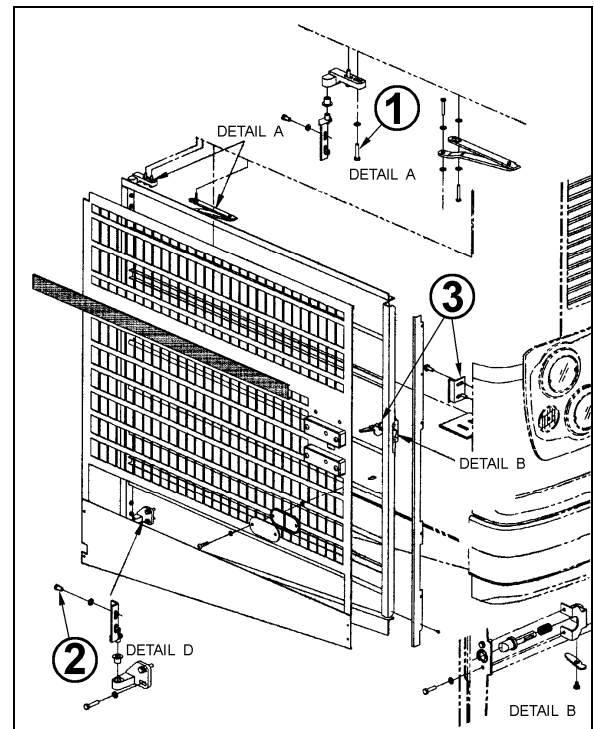

FIGURE 37: RADIATOR DOOR
1. Loosen the bolts, (1, Fig. 37) holding the hinge to the vehicle structure to shift the door "IN or OUT" and "UP or DOWN".
2. Loosening the bolts (2, Fig. 37) allows the door to be shifted "LEFT or RIGHT" and "UP or DOWN".
To adjust the latch mechanism (3, Fig. 37) and the striker pin: